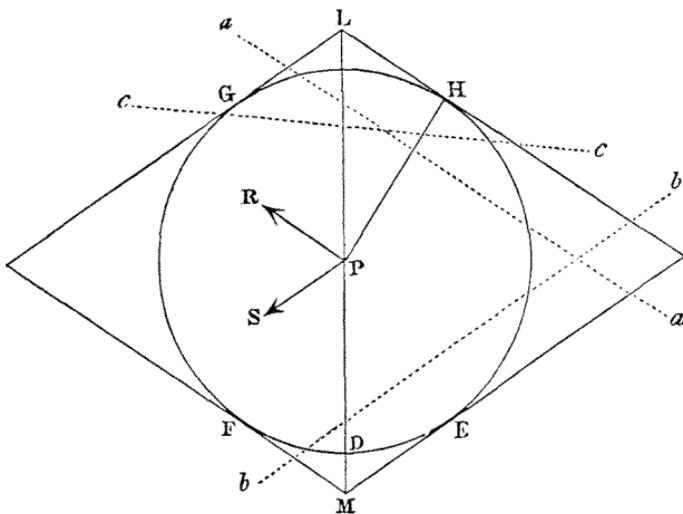

Fig. 1.
1. Let P (fig. 1) be the point where the traveller finds himself at fault, and let P D be a distance within which the path certainly lies; then the circle, E D F, somewhere cuts the path, and the traveller starting from P must first go to D, and then make the entire circuit, D E H F D, before he has exhausted his search. This distance of  $P D + D E H F D = P D + 6 P D$  nearly,  $= 7 P D$  altogether, which gives the length of road that the man must be prepared to travel over who can answer no other than the question A. Of course, P D may cut the path, but I am speaking of the *extreme* distance which the lost man may have to travel.